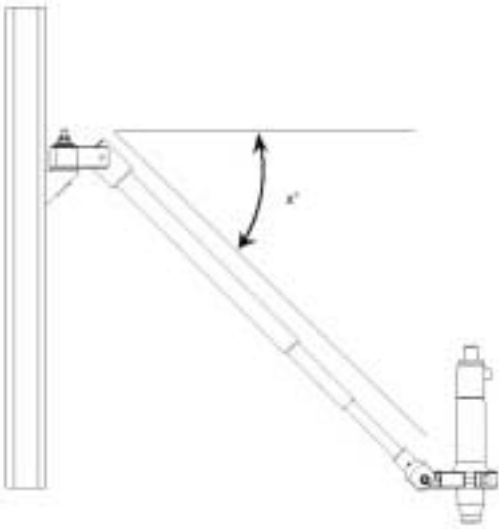

Fig 2
3. To maximize the dispersion of the torque reaction, respect the following angle positioning (see Fig 2).